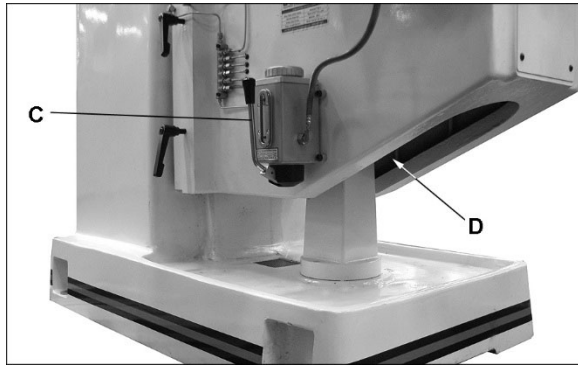

Figure 16: Lubrication points
- Oil Pump (C, Figure 16) – fill reservoir as needed by removing cap on top of tank and filling with Mobil Vactra® #2 oil or equivalent. Pump oil with release handle once for every hour of operation. Way surfaces and leadscrews are lubricated in this manner.
- Knee leadscrew (D, Figure 16) – lubricate with Mobilith AW2, or equivalent, once weekly.